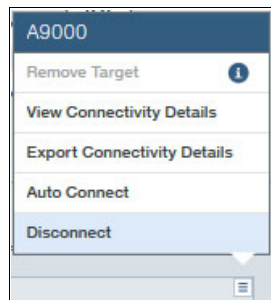

Figure 4-33 Disconnection migration target
2. Select Disconnect from the actions menu, as shown in Figure 4-33.